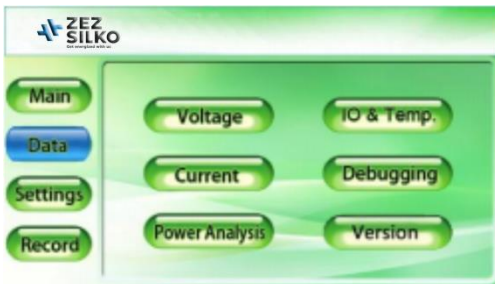
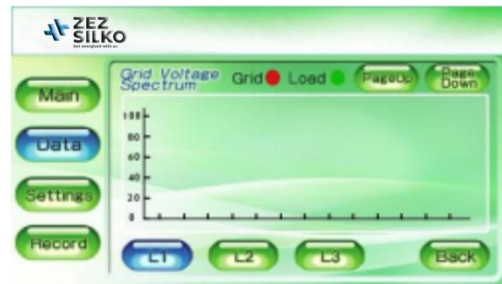

Figure 5-4 Waveform of grid voltage
Figure 5-3 Main interface of data
- Click “Data” on the main menu and enter the main interface of data, as shown in Figure 5-3;
- Click “Voltage” in Figure 5.3 to check the waveform and spectrum of grid voltage, displayed in Figure 5-4 and 5-4;